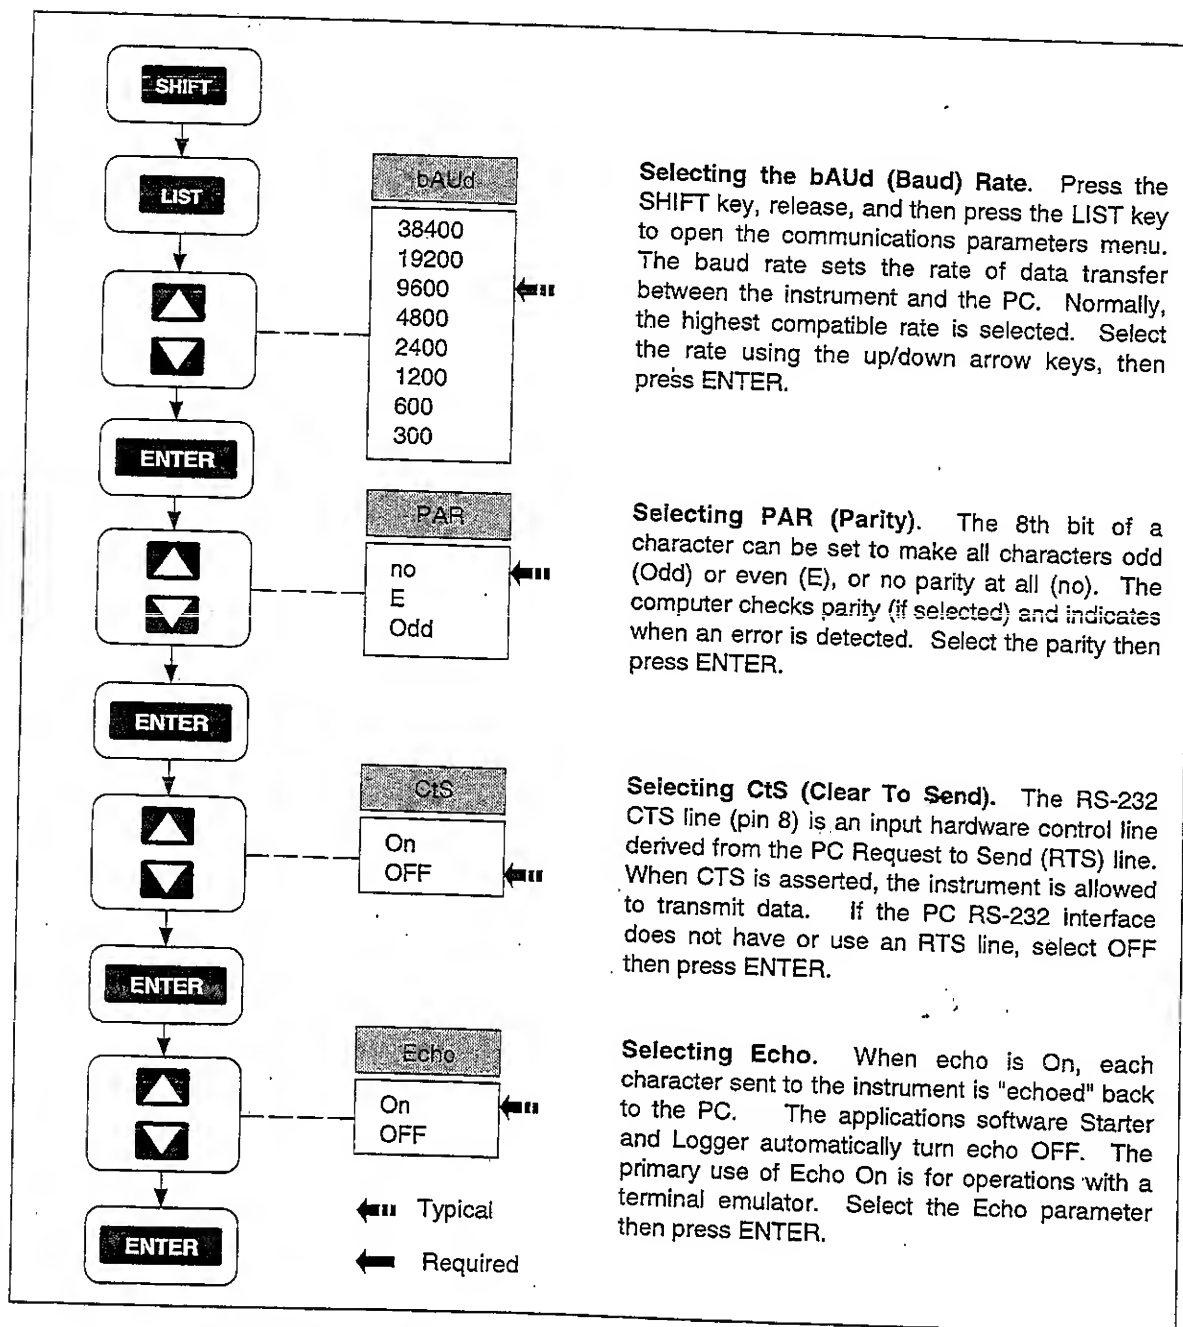

Figure 4-2. Configuring the Instrument for Computer Operations
Correct operation of the interface between the instrument and PC depends on the baud rate, parity, CTS (Clear To Send) and echo of the RS-232 interface parameters. Perform the procedure in Figure 4-2 to establish these parameters for the instrument. The instrument uses one stop bit, which is not selectable.
1. Configure the Data Bucket communication parameters, as described in Figure 4-2, for bAUd = 9600, PAR = no, CtS = OFF, and Echo = On.
5. In Terminal, request the Data Bucket to send its identification number by entering: *IDN? <Enter> If *IDN? did not appear on the screen as the characters were entered, be sure the instrument RS-232 port is configured for Echo = On (Figure 4-2). If the wrong characters appear, there is an incompatibility in the COM port configurations (baud rate, parity, etc.). If everything seems normal, but characters still don't appear, check the RS-232 connection cable (see Appendix E). When the RS-232 link is operating correctly, the instrument returns an identification string and execution prompt similar to the following:
1. Configure the Data Bucket communication parameters, as described in Figure 4-2, for bAud = 9600, PAR = no, CtS = OFF, and Echo = On.
4. In Terminal, request the Data Bucket to send its identification number by entering: `*IDN? <Enter>`. If `*IDN?` did not appear on the screen as the characters were entered, be sure the instrument RS-232 port is configured for Echo = On (Figure 4-2). If the wrong characters appear, there is an incompatibility in the COM port configurations (baud rate, parity, etc.). If everything seems normal, but characters still don't appear, check the RS-232 connection cable (see Appendix E). When the RS-232 link is operating correctly, the instrument returns an identification string and execution prompt similar to the following: